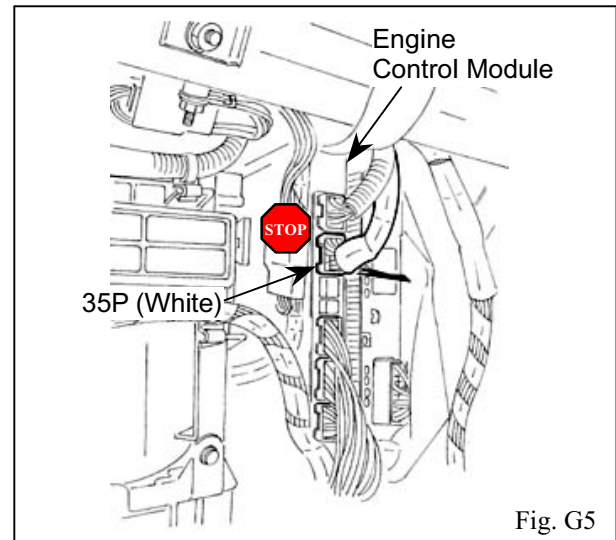

Fig. G5
9. Locate and disconnect the white 35P connector from the Engine Control Module. (Fig. G5)